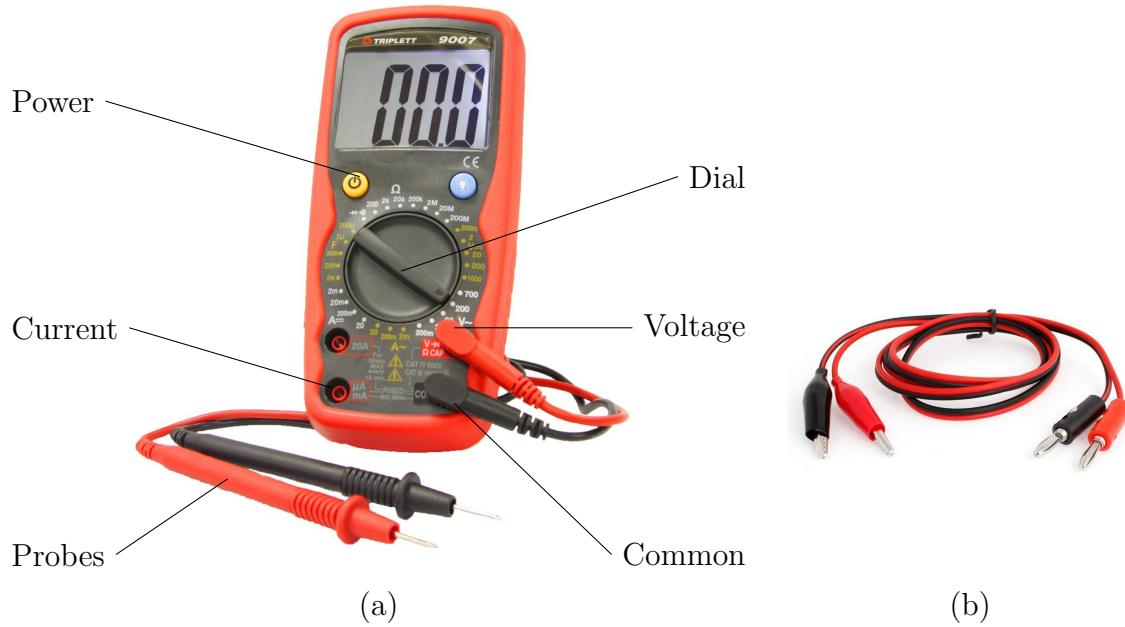

Figure 2.2: Your (a) digital multimeter (DMM), the Triplett 9007, and (b) alligator clip probes.
Your primary digital multimeter (DMM), the Triplett 9007 shown in Fig 2.2, can be used to make a number of measurements including resistance, DC current, and DC voltage. We'll measure a DC voltage to start. This lab will be most convenient if you use alligator clip probes in your DMM. Install a black alligator clip probe in the "Common" terminal, and a red alligator clip probe in the "Voltage" terminal directly above the Common terminal. Clip the alligator clips together so that you expect to measure 0 V. Now power the DMM by pressing the power button, and turn the voltage dial to the DC voltage measurement, the V with one straight and one dashed line next to it. Most measurements on your DMM have a number of different full range settings. For the highest precision, you should use the smallest full-range setting larger than your measurement. We'll be measuring 10 V, so use the 20 V (DC) setting. The accuracy of your DMM for the DC Voltage reading is listed in table ??.